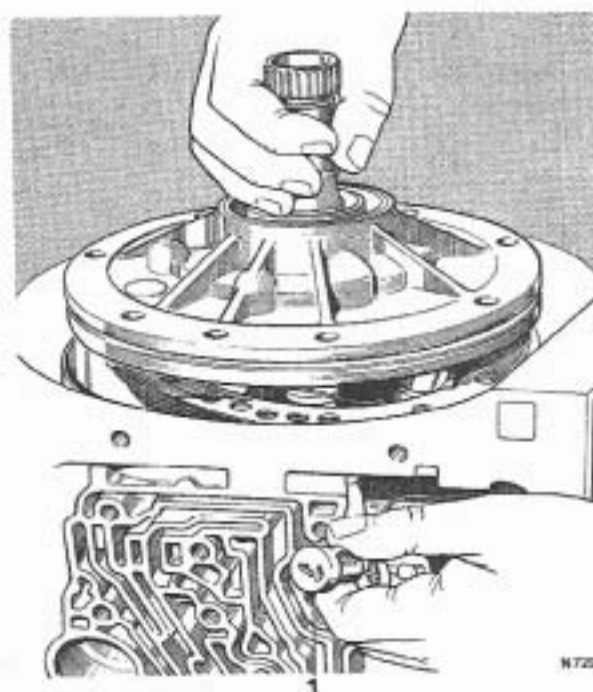

FIG. T232 FITTING THE OIL PUMP
6. Feed the stator connector and lead (if fitted) through the hole in the casing adjacent to the pressure regulator (see Fig. T232).